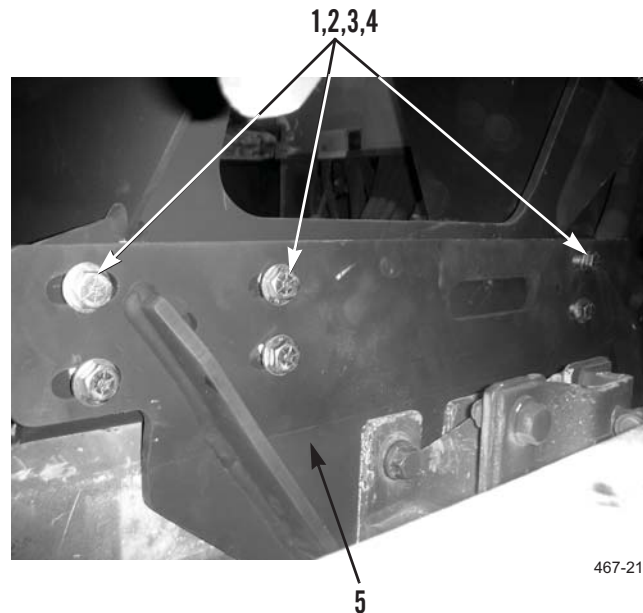

Figure 16. PLS Stowage Assembly Installation.
4. Install 12 washers (Figure 16, Item 2), bolts (Figure 16, Item 1), washers (Figure 16, Item 5), and nuts (Figure 16, Item 4) on right and left stowage assembly brackets (Figure 16, Item 5).